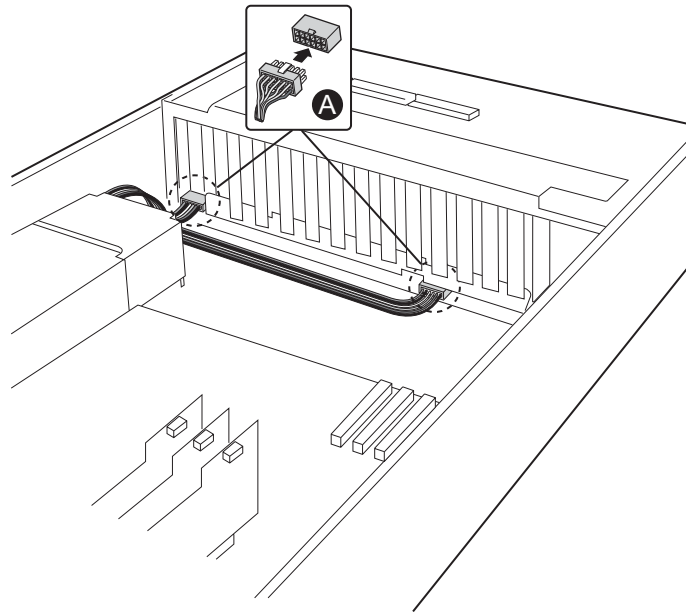

Figure 14. Re-Connecting the Power Distribution Board Module Connectors
- A. Carefully re-connect the two 12-pin Power Distribution Board Module connectors to the backplane board. See Figure 14.